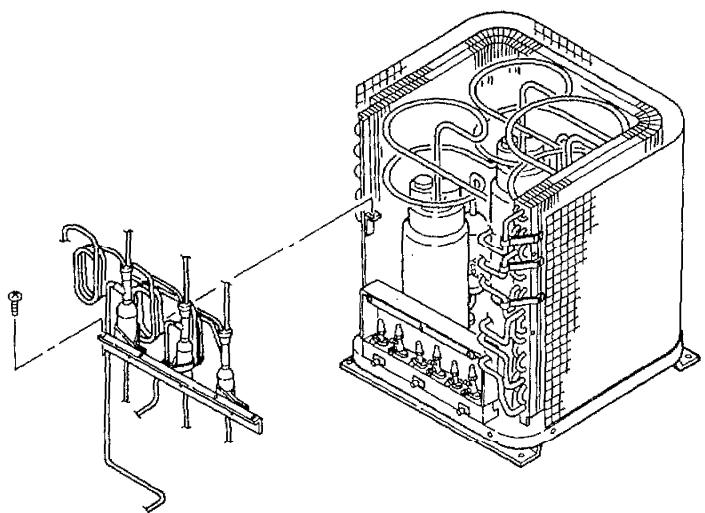

Fig. 12
- 2) Remove the refrigerant tubing by brazing torch, Fig. 12